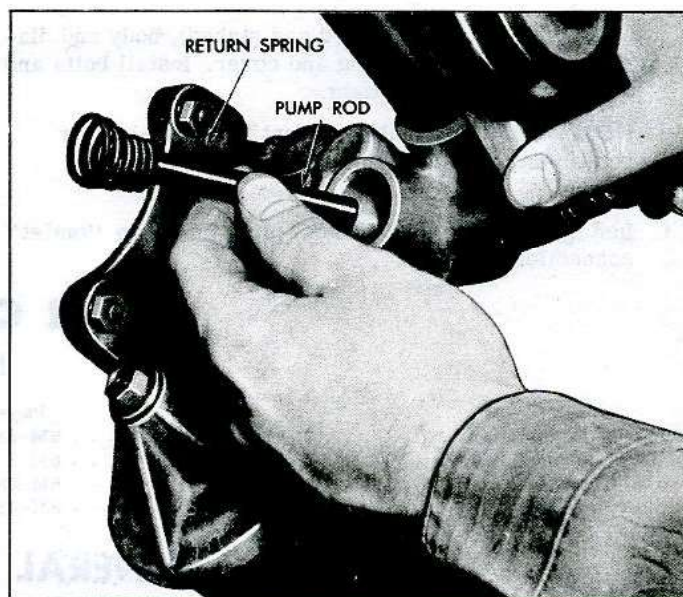

Fig. 60—Removing Push Rod
3. Carefully remove fuel pump, and push rod assembly (fig. 60) from engine.